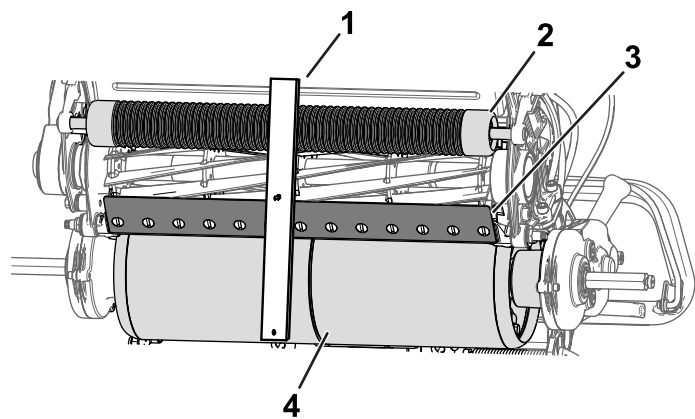

Figure 11
2. Hook the screw head of the height-of-cut gauge onto the right side of the cutting edge of the bedknife and rest the rear end of the bar onto the traction drum (Figure 11).